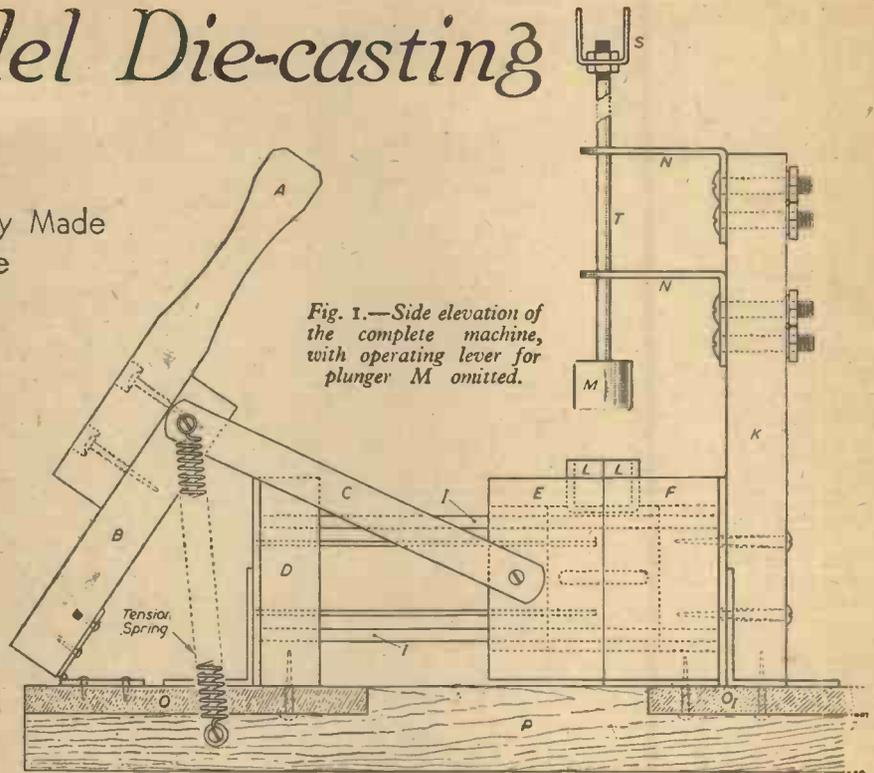

Fig. 1.—Side elevation of the complete machine, with operating lever for plunger M omitted.
The complete machine is shown in Fig 1. Dimensions require to be modified to produce the sizes of casting required. I decided that a mould of 5½ in. x 3½ in. would suit my purpose best, and it is on this basis that the machine was made.
1. Pour just enough metal in cylinder L (Fig. 1) to fill the mould. (This will come easily after one or two "tries.")
The machine consists of two wood bearers P (Figs. 1 and 3) rigidly fastened with screws to cross-platforms O. The fixed die-holder F is secured to cross-platform OI by steel angles and woodscrews. The slide-ejector block D is similarly fastened to cross-platform O. Handle block B is firmly hinged to cross-platform O. The plunger assembly, S, T, M and L, is simply made from materials found in every workshop. The cylinder L is a piece of tube with a sliding-fit plunger M. Cylinder L should be halved and secured to the two halves of the die. I used a plunger regulator out of an old refrigerator fitting.